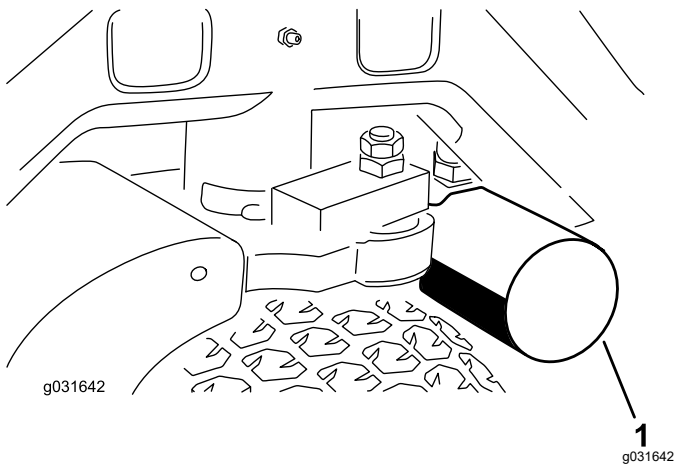
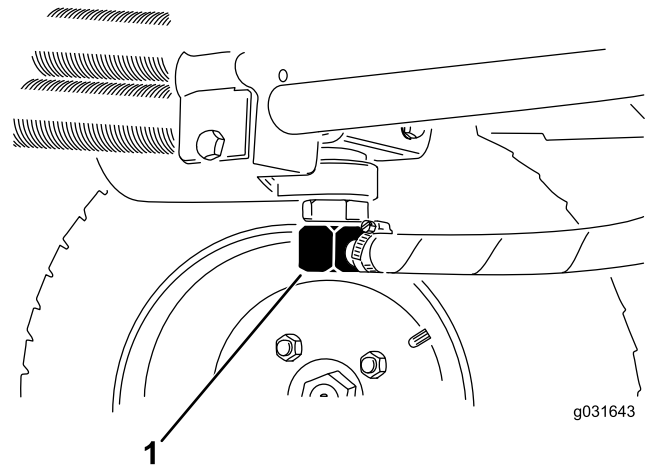

Figure 65
Figure 66
3. Clean around the filter-mounting area, place a drain pan under the filter, and remove the filter (Figure 65).
2. Disconnect the hydraulic line or remove the hydraulic filter and let the hydraulic fluid flow into a drain pan (Figure 65 and Figure 66).
3. Install the hydraulic line when the hydraulic fluid stops draining (Figure 66).